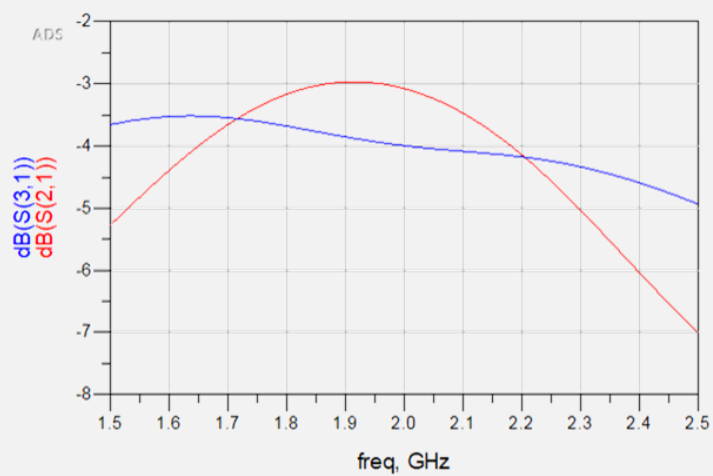
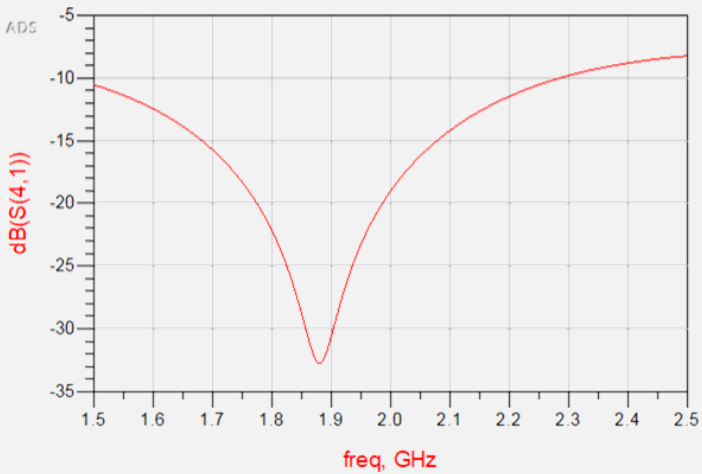
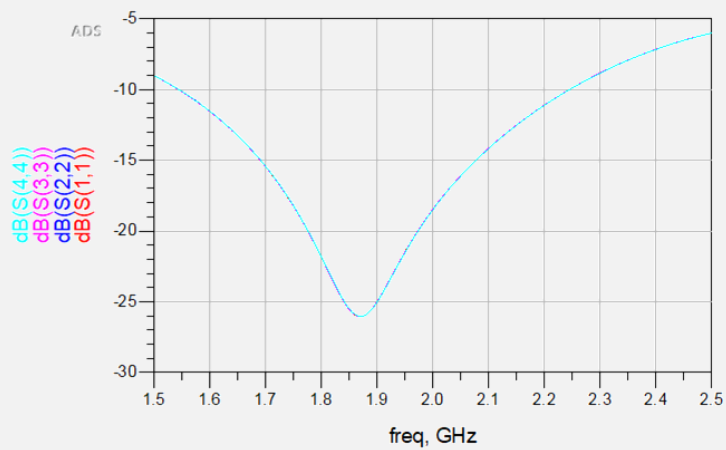

Figure 10. Output parameters of the distributed element coupler
Figure 11. Isolation port for the distributed element coupler
Figure 12. Reflection parameters for the distributed element coupler
6. Once the simulation is finished, plot the output parameters –  $\text{dB}(S(2,1))$  and  $\text{dB}(S(3,1))$  – on one graph; the isolation port –  $\text{dB}(S(2,1))$  – on another graph; and the reflection parameters –  $\text{dB}(S(1,1))$ ,  $\text{dB}(S(2,2))$ ,  $\text{dB}(S(3,3))$ , and  $\text{dB}(S(4,4))$  – on another graph. These graphs are plotted in Figures 10, 11, and 12.
Figure 10 shows about a 3.1 dB loss through port 2 at the design frequency, whereas there is about a 4 dB loss through port 3. Figure 11 shows that output through the isolation port and Figure 12 shows the reflection parameters for all ports. These parameters are fairly low. However, these parameters reach their minimum below the design frequency by about 150 MHz.